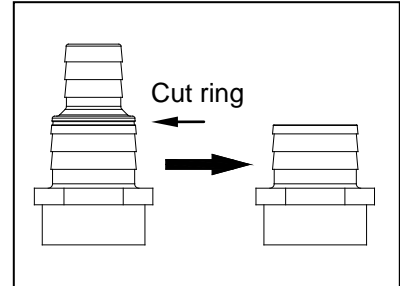

Fig. 1
1. For maximum water flow, it is recommended that the largest tubing size for your pump is used. If using 1 in. ID tubing, proceed to step 2. If using 1-1/2 in. ID tubing, cut the adapter as shown using a hacksaw. Fig. 1